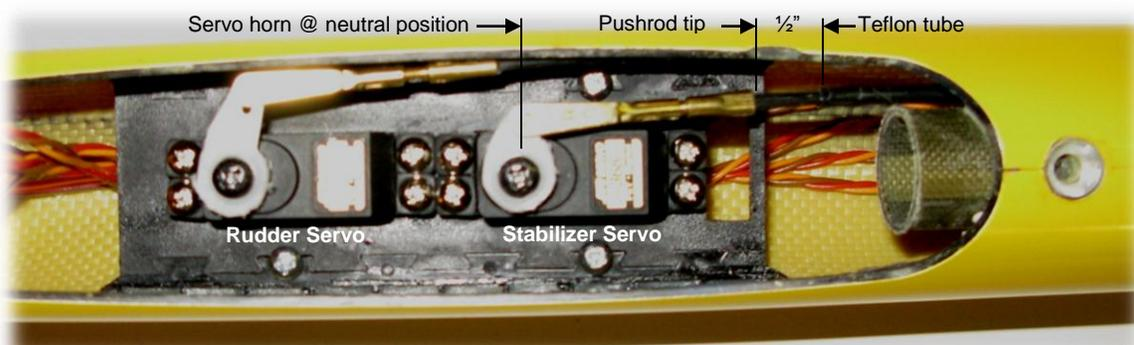

Figure 17: Shows the Rudder and Stabilizer pushrods installed
1. Center the servo and set the servo horn at neutral position as shown in figure 17.
7. When the pushrod is properly installed the servo will look like figure 17.